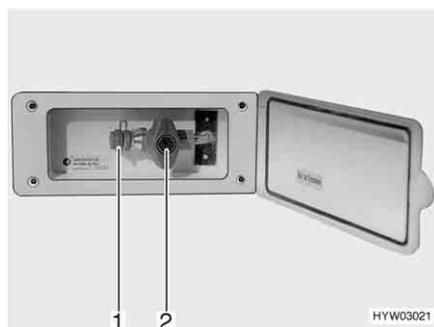

Fig. 148 External gas connection, gas isolator tap closed
The external gas connection (Fig. 148) is located at the rear or to the left or right of the vehicle depending on the model.
- Connect the external gas device to the connection point (Fig. 148,1).
- Open the gas isolator tap (Fig. 148,2).